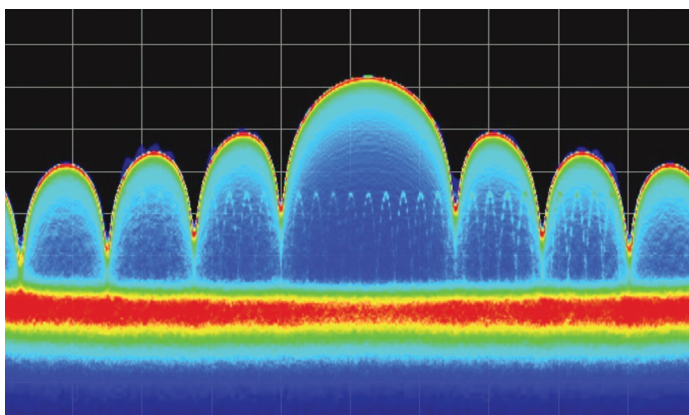
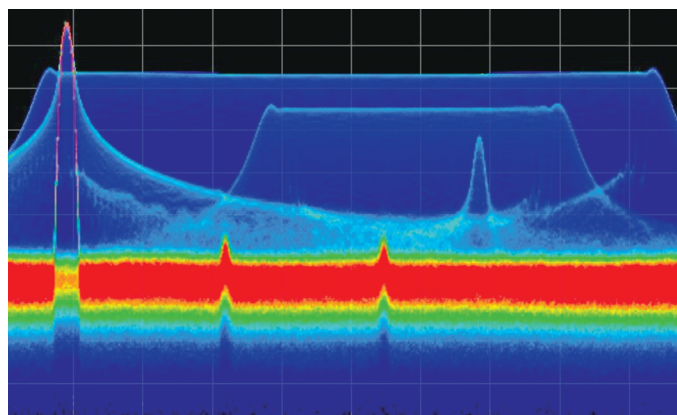

Figure 9. Interference to a pulse.
Figure 10. Multiple chirps in one band.
Figures 9 and 10 show a typical display using a phosphor emulation technique. Without phosphor emulation, the screen in Figure 10 would just show the large LFM signal, with the CW signal “popping out” the top on the left. But with phosphor emulation, you can see a second lower power LFM overlapped in frequency. In addition, several single-frequency pulsed carriers and two continuous wave (CW) interferers can be observed. Of course, the bandwidth and acquisition speeds are much faster than a turn of the century spectrum analyzer.